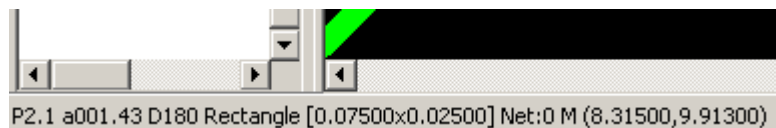

Figure 9: The Status Bar
2. View the Status bar along the bottom edge of the application (see Figure 9) to find out information about that entity including Layer, Aperture size and Shape, Position, Part Number, Reference Designator and other useful information. Note, the information varies with the type of entity being investigated (Pad v Trace v Drill v Part)